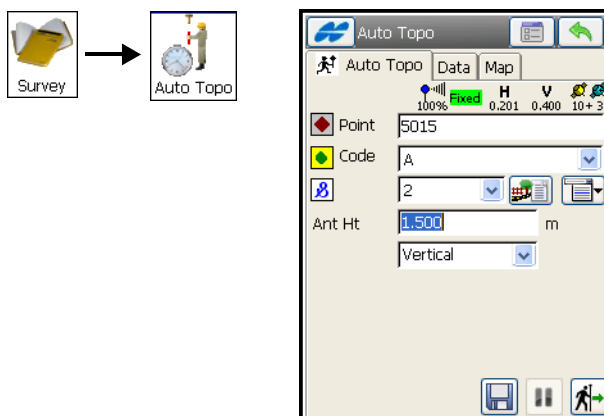

Figure 8-27. Auto Topo
1. Tap **Survey** ► **Auto Topo**. On the *Auto Topo* screen, enter the point name, select the Code if necessary and insert the Antenna height and height type (Figure 8-27).